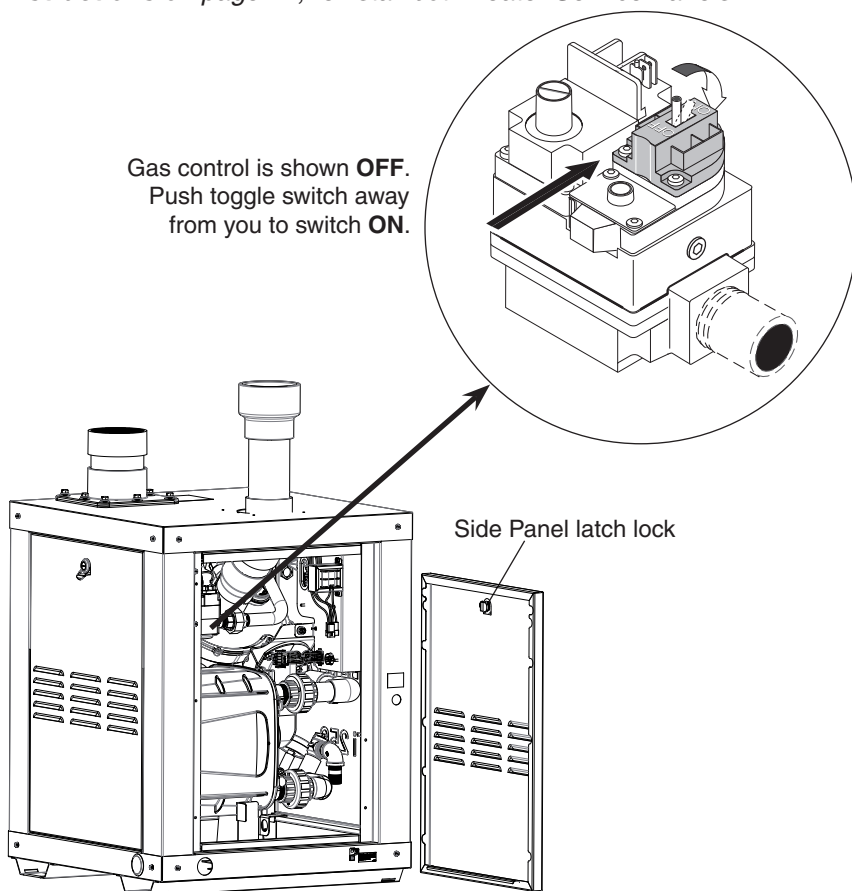

Figure 1.
2. Remove the side panel from the heater to access the Gas Control Valve. Using a flat-blade screwdriver, insert press and turn the screwdriver to unlock the panel. See Figure 1.